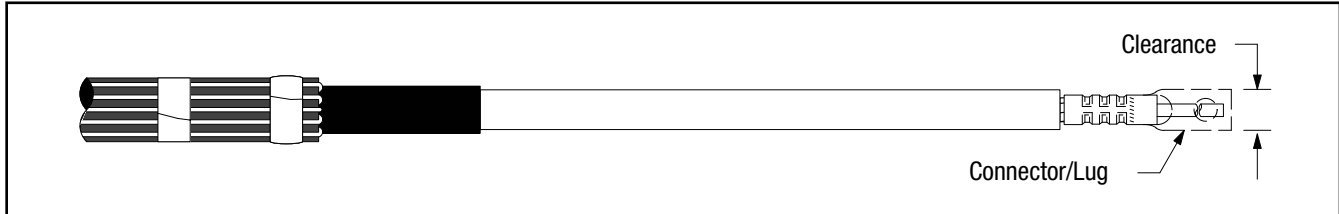

Figure 4
- 3.1 Check to insure 3M Cold Shrink QT-III Silicone Rubber Termination assembly fits over the selected lug or connector BEFORE installing the lug or connector.** If lug or connector (Figure 4) will not fit through the termination core, clean the insulation (per Step 4.0) and slide termination on cable before installing lug or connector. **DO NOT REMOVE CORE AT THIS TIME.**